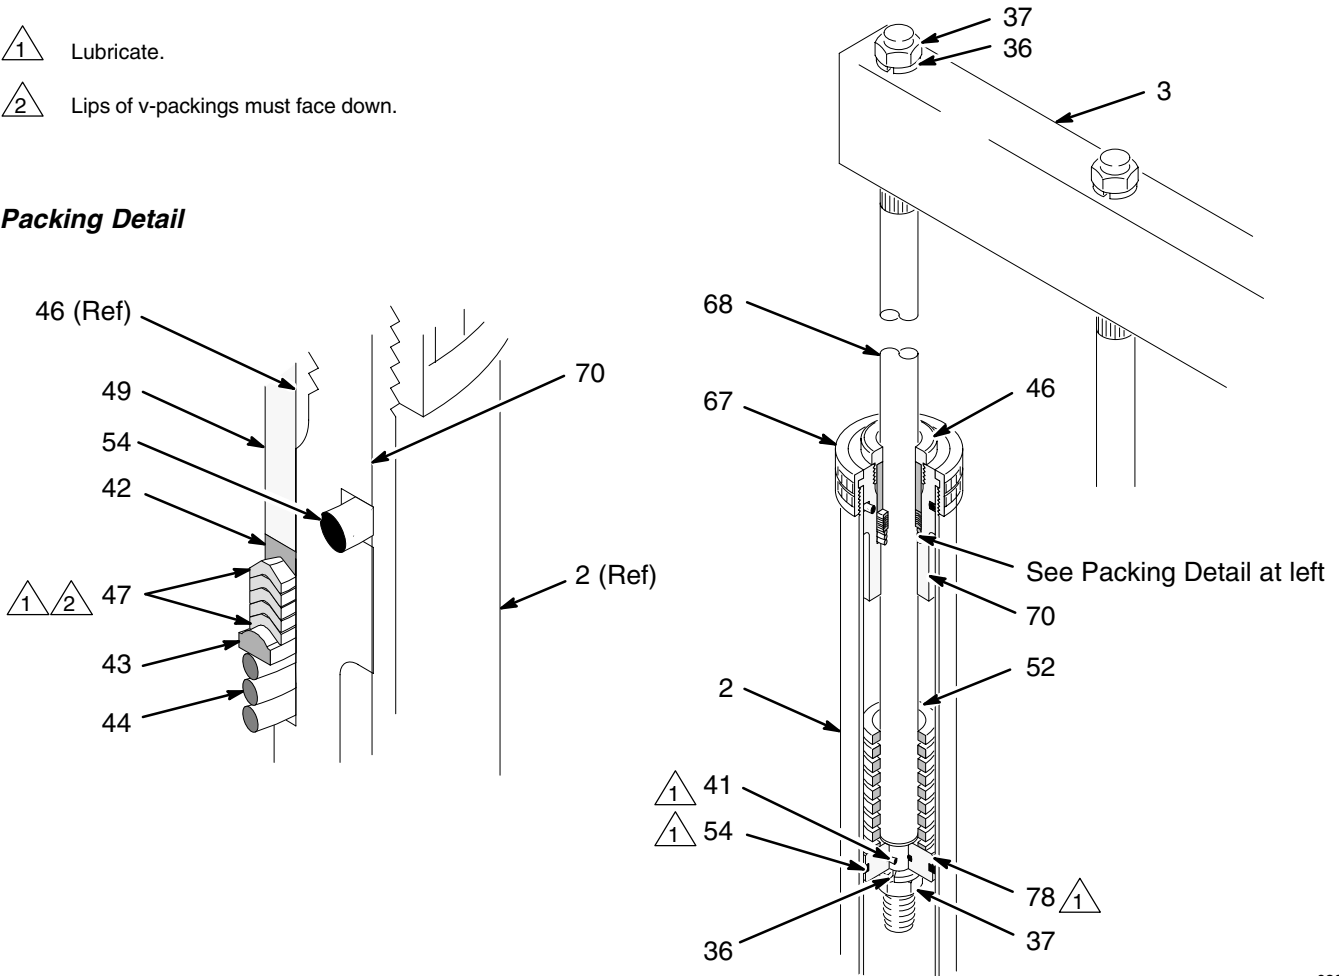

Fig. 9
1. If air leaks around the piston rod packing nut (46), tighten the nut. If the air leak continues, **relieve the pressure** and continue as follows.
2. Remove the four nuts (37) and lockwashers (36) holding the support beam (3) to the rod (68), and remove the support beam. Screw the packing nut (46) out of the housing (70) and slide it up off the rod (68). See Fig. 9.
3. Remove the bearing (49), female gland (42), packings (47), male gland (43) and spring (44) and slide them up off the rod (68).
5. Slide the spring (44) and male gland (43) onto the rod (68). Lubricate the packings (47) and slide them onto the rod one at a time, with the lips facing down. Slide the female gland (42) onto the rod and push all of the packings into the housing (70). Slide the bearing (49) onto the rod.
6. Slide the packing nut (46) onto the rod (68) and screw it into the housing (70). Tighten just snug; do not overtighten or the packings may be damaged.
7. Reinstall the support beam (3) on the rods (68), using the nuts (37) and lockwashers (36).
2. Remove the support beam (3) as explained under **Piston Rod Packing Service**.
3. Remove the cylinder cap (67) and slide it up off the piston rod (68). Loosen the packing nut (46) and carefully slide the packing nut, bearing (49), and housing assembly (70) up off the rod. See Fig. 9.
4. Carefully pull the piston rod (68) **straight** up out of the cylinder (2). If the rod is cocked to one side, the piston or inside surface of the cylinder could be damaged.
5. Carefully lay the piston and rod down so the rod will not be bent. Remove the piston retainer nut (37), washer (36), piston (78), outer piston seal (54), inner piston seal (41) and spring (52).
6. Install the piston seals (41 and 54) on the piston (78) and lubricate the piston and seals. Reinstall the spring (52), piston (78), washer (36) and nut (37) on the piston rod (68).
7. Carefully insert the piston into the cylinder (2) and push the rod (68) **straight** down into the cylinder. Slide the housing, bearing (49), and packing nut (46) down onto the piston rod (68). Tighten the packing nut just snug; do not overtighten or the packings may be damaged.
8. Reinstall the cylinder cap (67) and beam (3).